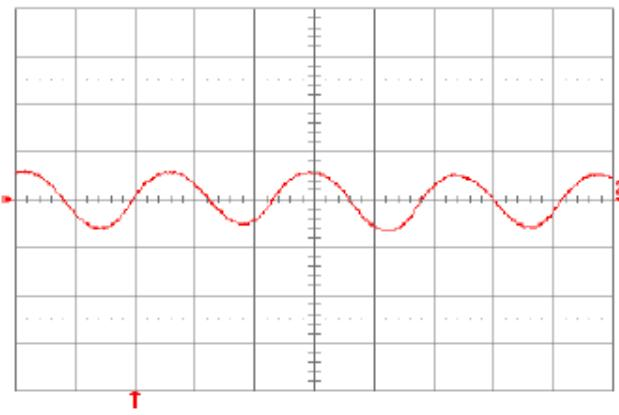

**Fig. 5.0V.14:** Test Setup for measuring input reflected ripple currents,  $i_c$  and  $i_s$ .
**Fig. 5.0V.13:** Output voltage ripple (20 mV/div.) at full rated load current into a resistive load with  $C_o = 10 \mu F$  tantalum + 1  $\mu F$  ceramic and  $V_{in} = 48V$ . Time scale: 1  $\mu s$ /div.